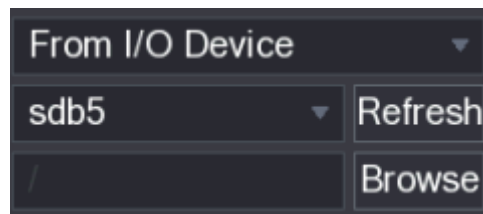

Figure 5-106
- **From I/O Device:** Recorded videos playback from external storage device. See Figure 5-106.